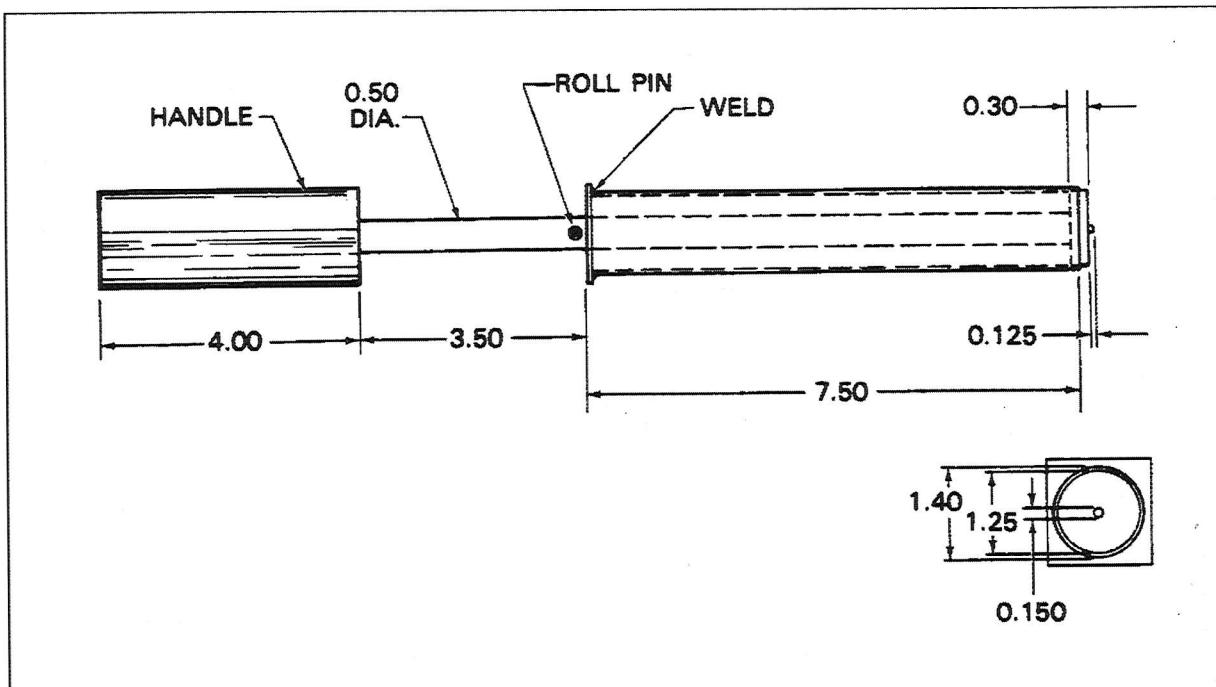

Figure 32-5. Retainer Ring Tool
*A special tool can be made to simplify installation of the new retainer ring. (Refer to Figure 32-5.)*